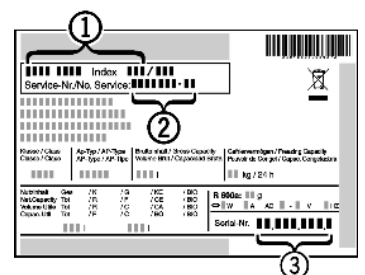

Fig. 4
- ▶ Read the appliance designation *Fig. 4 (1)*, service No. *Fig. 4 (2)* and serial No. *Fig. 4 (3)* off the type plate located inside the appliance on the left-hand side.
- ▶ Notify the customer service, specifying the fault, appliance designation *Fig. 4 (1)*, service No. *Fig. 4 (2)* and serial No. *Fig. 4 (3)*.